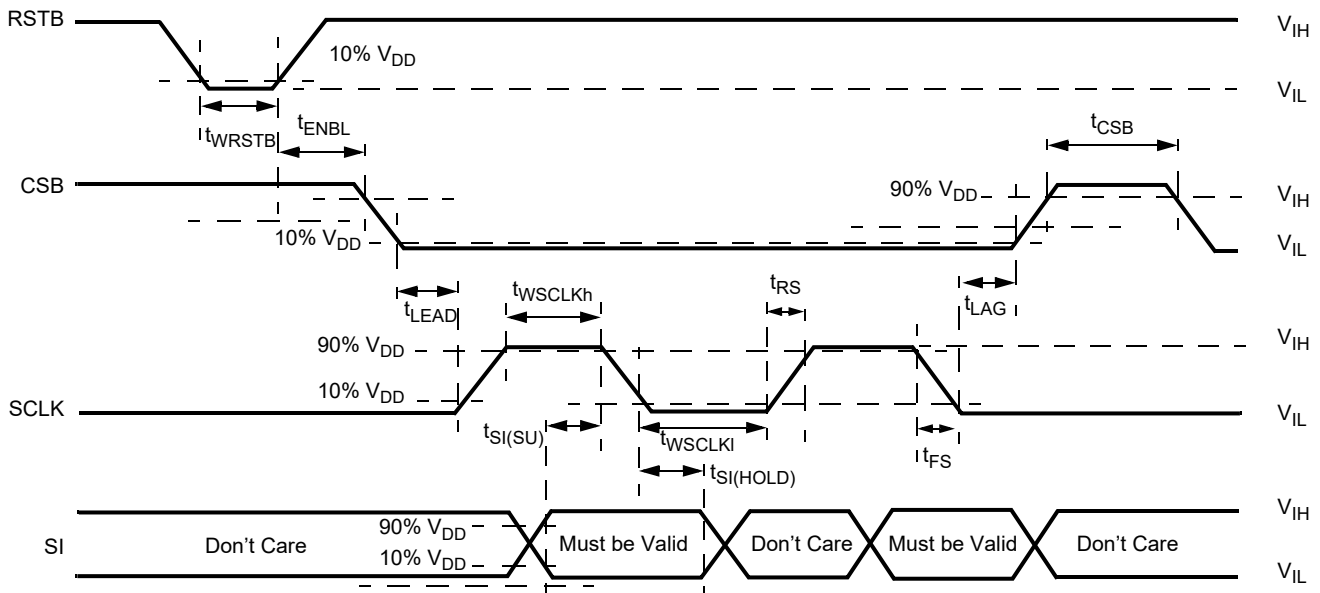
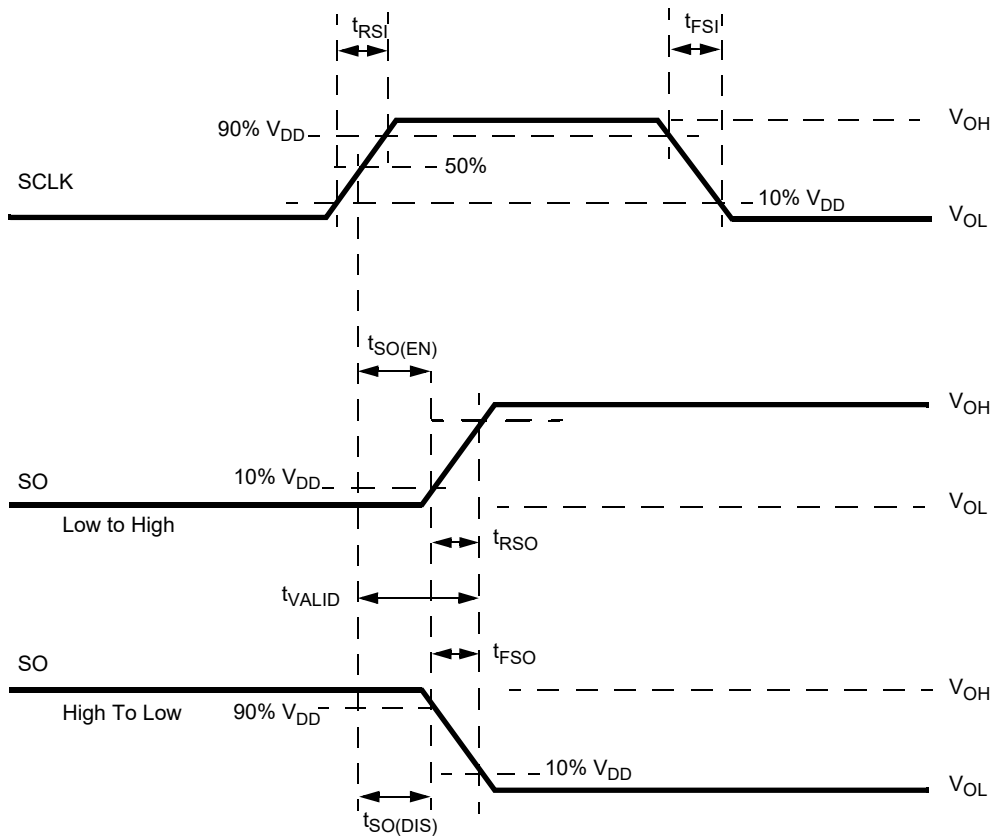

Figure 7. Timing requirements during SPI communication
Figure 8. Timing diagram for serial output (SO) data communication
Data communication over the SPI port is enabled when the CSB pin is in the logic [0] state. Data from the Input Shift registers are locked in the addressed SI registers on the rising edge of CSB. The device transfers the contents of one of the eight internal registers to the SO register on the falling edge of CSB. The SO output driver is enabled when CSB is logic [0]. CSB should transition from a logic [1] to a logic [0] state only when SCLK is at logic [0]. CSB is internally pulled up to  $V_{DD}$  through  $I_{UP}$ . (see Figure 7 and Figure 8).
Serial input (SI) data bits are shifted in at this pin. SI data is read on the falling edge of SCLK. 16-bit data packages are required on the SI pin (see Figure 7), starting with bit D15 (MSB) and ending with D0 (LSB). All the internal device registers are addressed and controlled by a 4-bit address (D9-D12) described in Table 11. Register addresses and function attribution are described in Table 12. The SI pin is internally connected to a pull-down current source,  $I_{DWN}$ .